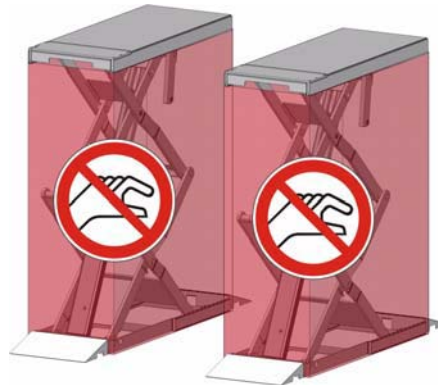

Fig. 3-1 Mechanical danger zones
- Do not reach or step into the danger zone (*Fig. 3-1, page 14*).
- Place the controls in a location ensuring the operator has a clear view of the load and the machine, particularly including the danger zone (*Fig. 3-1, page 14*).